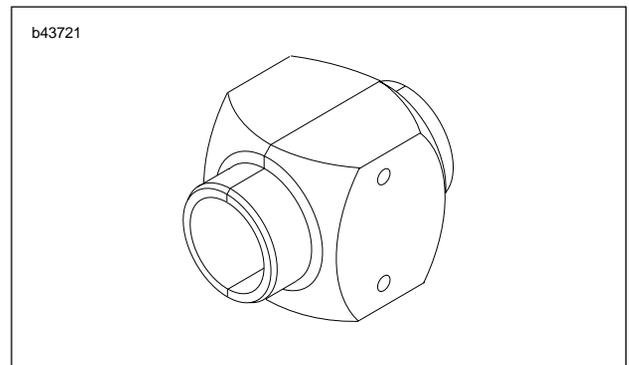

Figure 2-72. Fork Seal Driver (B-43721)
- See Figure 2-69. Drive the guide bushing (22) with the seal spacer (23) and oil seal (24) into position in the outer tube using a FORK SEAL DRIVER (Part No. B-43721). See Figure 2-72.
- Install the oil seal stopper ring (25) and a **new** dust seal (26).